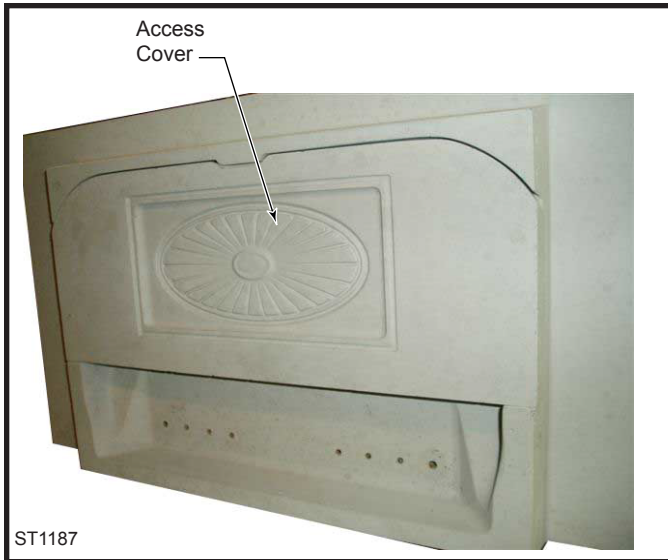

Fig. 21 Remove access cover.
1. Remove the access cover by gently lifting up and pulling out from the bottom edge. (Fig. 21)